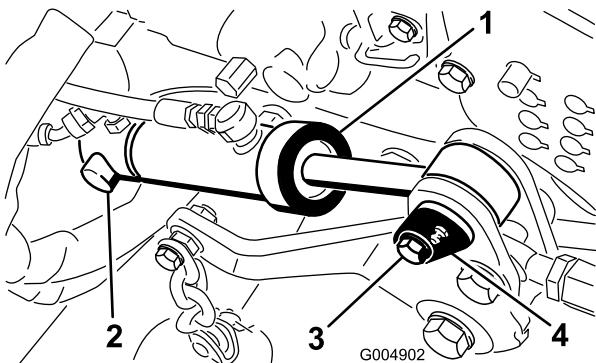
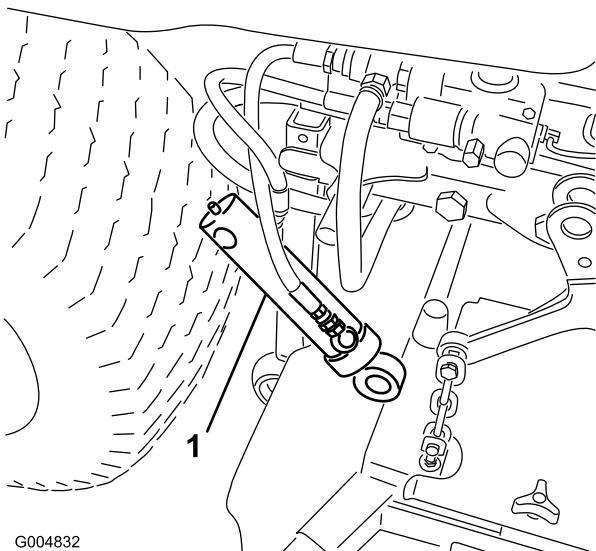

Figure 37
Figure 38
7. Remove the retaining ring securing the rear of the deck lift cylinder to the pivot pin (Figure 37).
8. Remove the screw securing the front cylinder pivot pin to the mower frame (Figure 37). Remove the cable tie securing the pressure and tank hoses.
9. Remove the front pivot pin and slide the cylinder off the rear pin (Figure 37). Let the cylinder hang out of the way on the hoses (Figure 38).